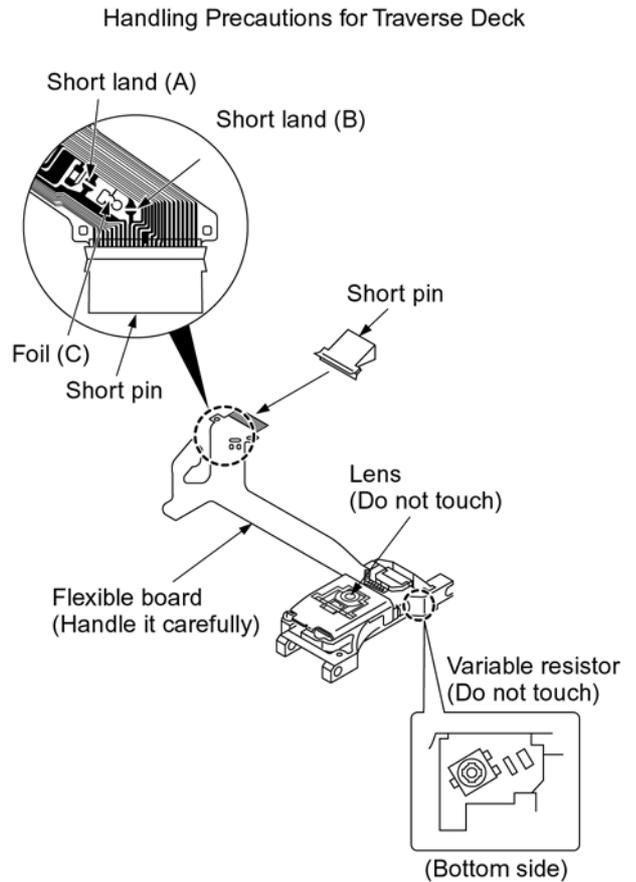

Fig.1
(Refer to **Fig.1**)
(as shown in **Fig.1**)
2. Cut the foil (C). (Refer to **Fig.1**) (Take care not to make contact with cutting point each other.)
3. Unsolder the short lands. (Refer to **Fig.1**)